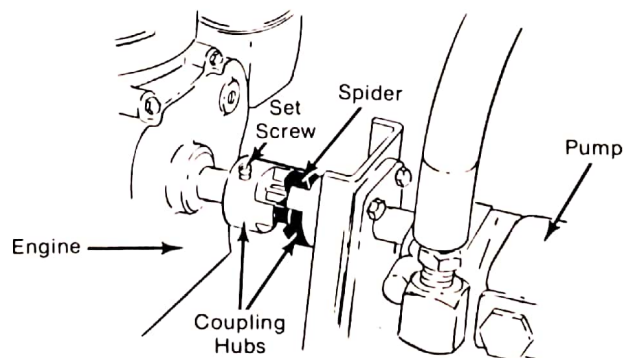

Figure 11
**Step 2)** Loosen the two set screws on the coupling hubs and pull the hubs apart until the engine and pump are no longer engaged. Tighten the set screws. **(Fig. 11)**